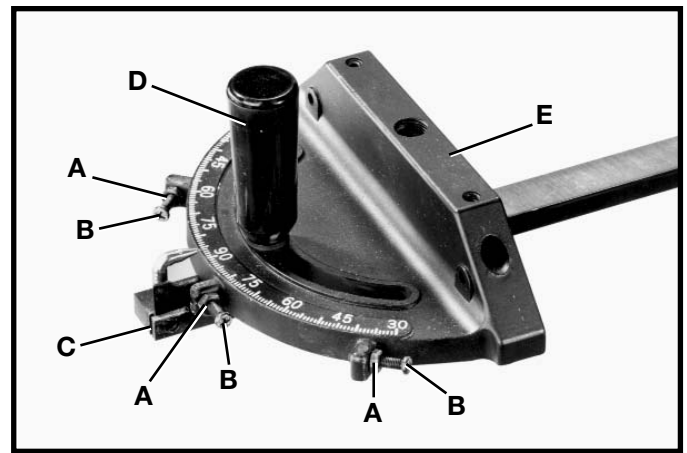

Fig. 44
1. Your miter gage is equipped with individually adjustable index stops at 90 degrees and 45 degrees right and left. Adjustment to the index stops can be made by loosening lock nuts (A) Fig. 44, and tightening or loosening the three adjusting screws (B) against the stop link (C).
2. To operate the miter gage, loosen lock handle (D) Fig. 44, and move the body of the miter gage (E) to the desired angle. The miter gage body will stop at 90 degrees and 45 degrees both right and left. To rotate the miter gage body past these points, the stop link (C) must be flipped out of the way.